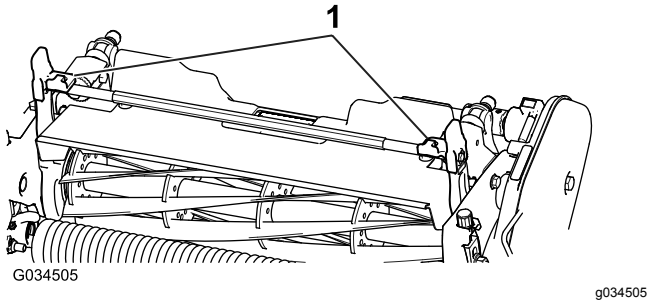
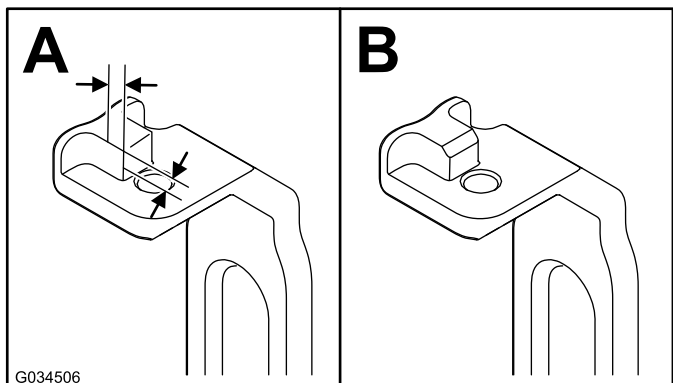

Figure 3
Figure 4
2. On both pitch arms (Figure 3), measure 2.28 mm (0.09 inch) in on the tabs and grind down the corner as shown in Figure 4.